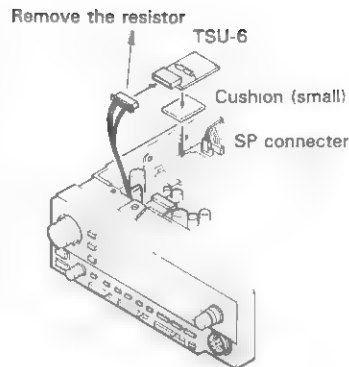

Fig. 3
6. Remove the resistor inserted into the connector. Attach the cable from TSU-6 as shown in the diagram. (Fig. 3)